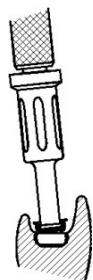

Fig. C3
8. Use the LOCATOR® Male Removal Tool (attached to the LOCATOR® Core Tool) to remove the Black Processing Replacement Male from the metal denture cap. The sharp circular edge on the end of the removal tool should be wedged tightly down into the very bottom of the Male so that it will catch the inside of the Male and pull it at an angle out of the metal housing. (Fig. C3) To discard the Male from the tip on the LOCATOR® Core Tool, point the tool down and away from you and tighten the Male Removal Tool clockwise back onto the Core Tool. This will activate the removal pin and dislodge the Male from the tip end of the Male Removal Tool.